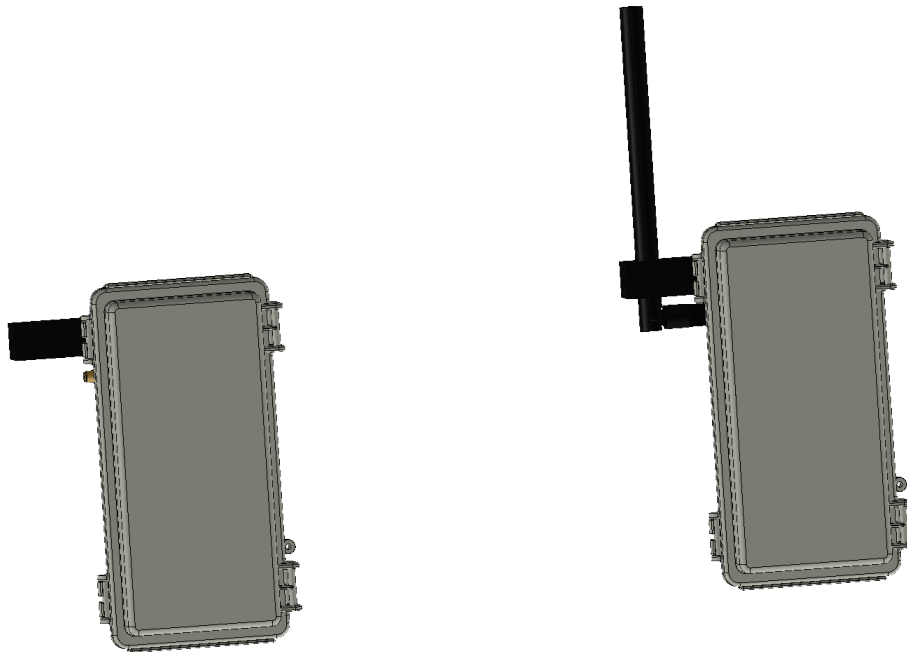

Figure 17: Antenna Placement
- Option 3: Connect the antenna directly to the unit (Figure 17).